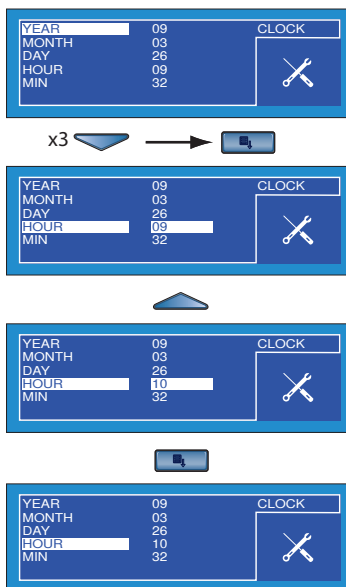

Figure 2.12 - Real time clock settings
2.6.5 Real time clock settings (Figure 2.12)
Highlight CLOCK from the main menu by using a combination of the ▲ (up) and ▼ (down) scroll keys and press the Enter key. The CLOCK set-up menu, is then displayed, See Figure 2.12.
Figure 2.12 illustrates a typical real time clock set-up screen and shows the method. The selection and changing of the HOUR